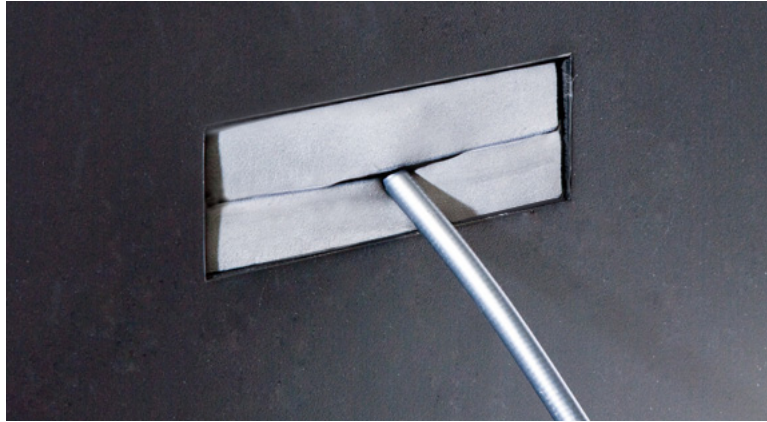

Figure 38 Cables installed with good seal.
- 3 Adjust as necessary to ensure a good seal around the cables, as shown in Figure 38 on page 68.